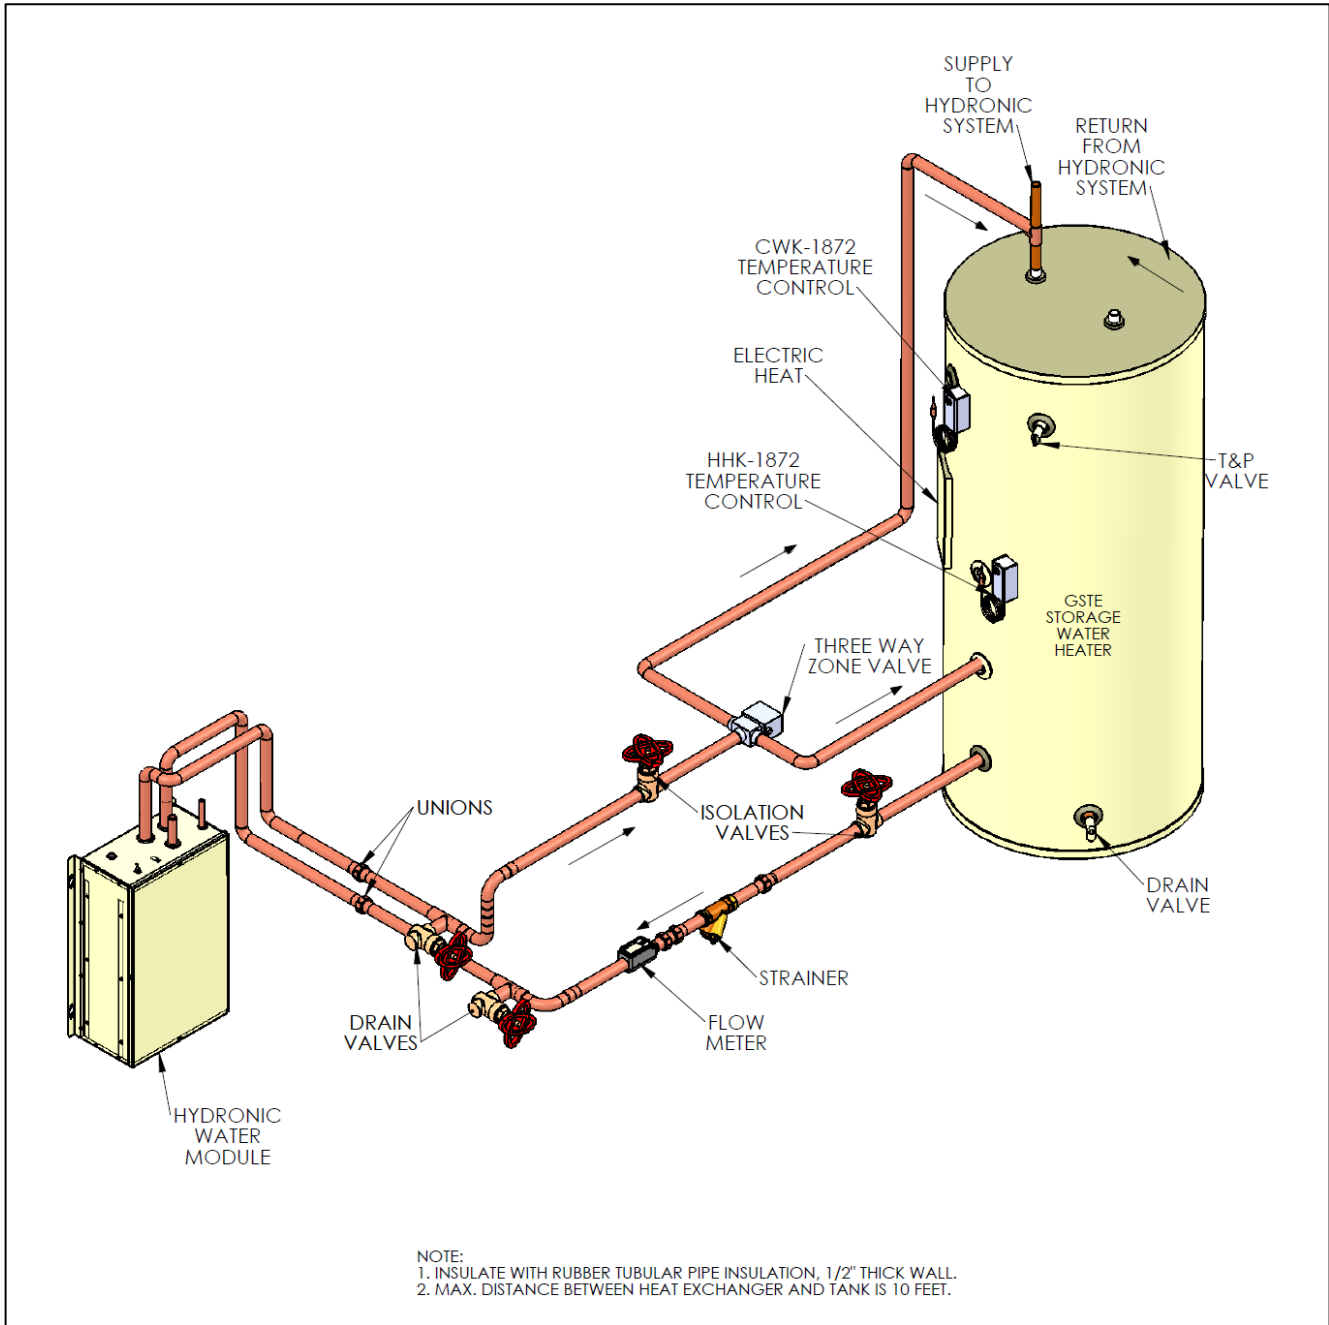

Figure 13d. Typical SC(A) Primary Hydronic Circuit Plumbing
A typical primary hydronic plumbing circuit for an SC(A) system is illustrated in Figure 13d.